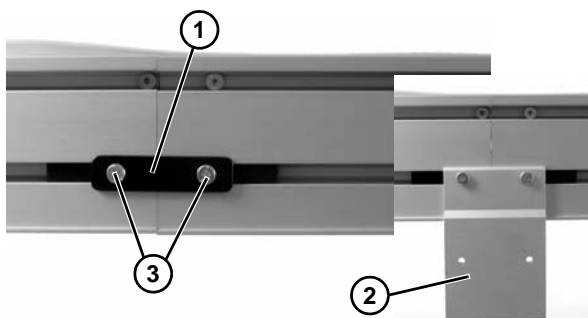

Figure 8
- Join conveyor sections and install connector brackets (**Figure 8, item 1**) or connector/mount brackets (**Figure 8, item 2**) and screws (**Figure 8, item 3**) on both sides as indicated. Tighten screws to 60 in-lb (7 Nm).